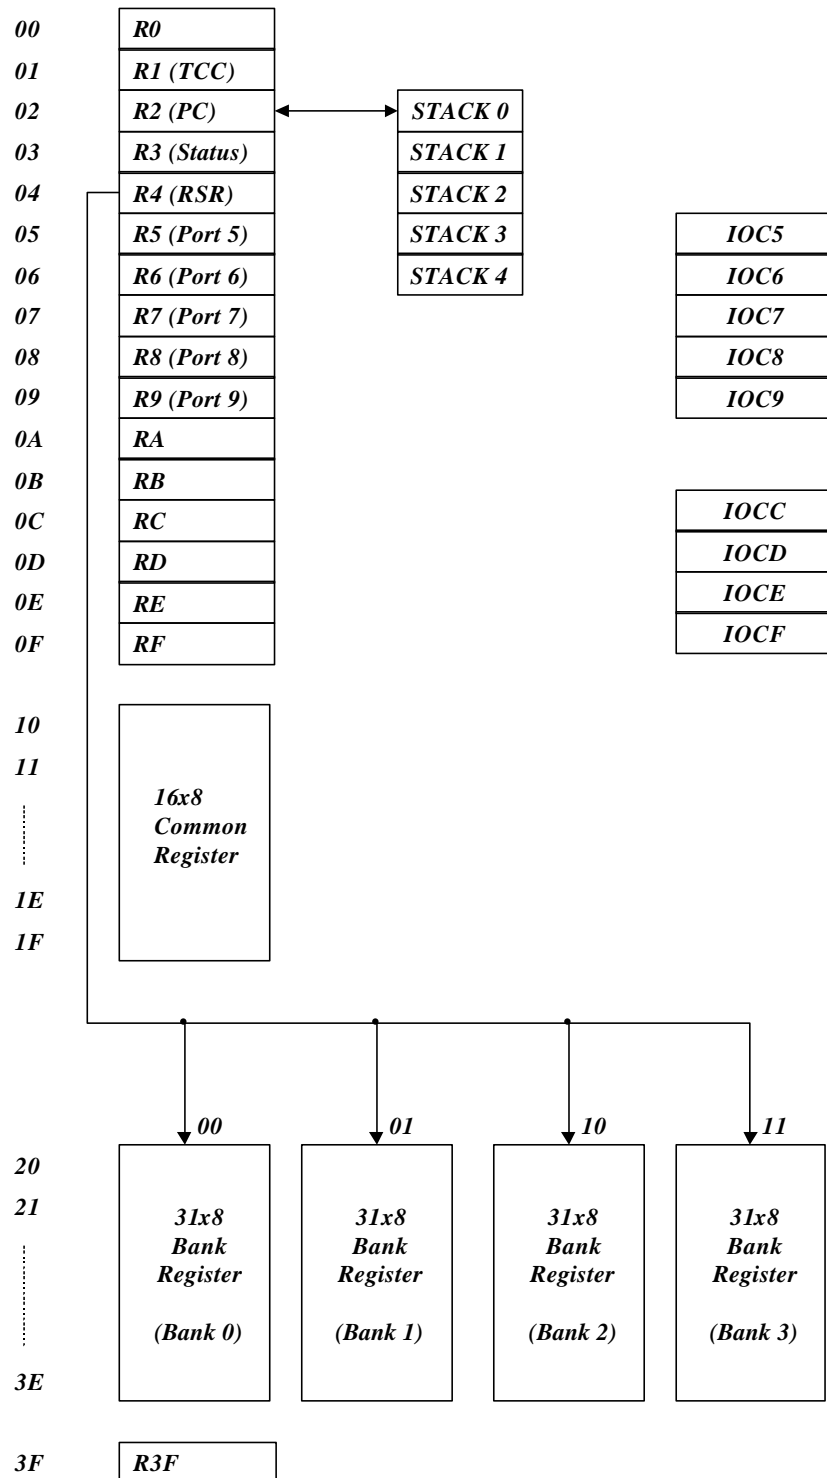

Fig. 4 Data memory configuration
- Bit 7 (GP) General read/write bit.
- See the configuration of the data memory in Fig. 4.